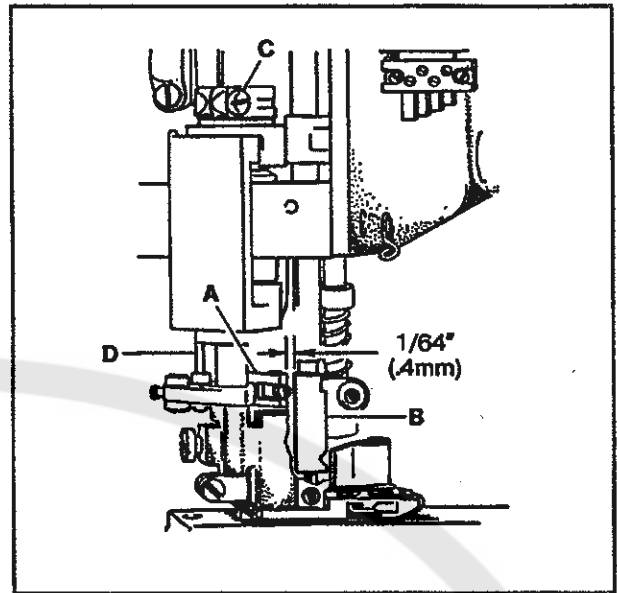

FIG. 20
Turn the handwheel in operating direction until link (A, Fig. 20) has traveled fully to the front. There must be a  $1/64"$  (0.4mm) clearance between link (A) and the back of needle head (B) when link (A) starts to jackknife. Loosen screw (C) and rotate driving sleeve (D) to position link (A). Tighten screw (C).